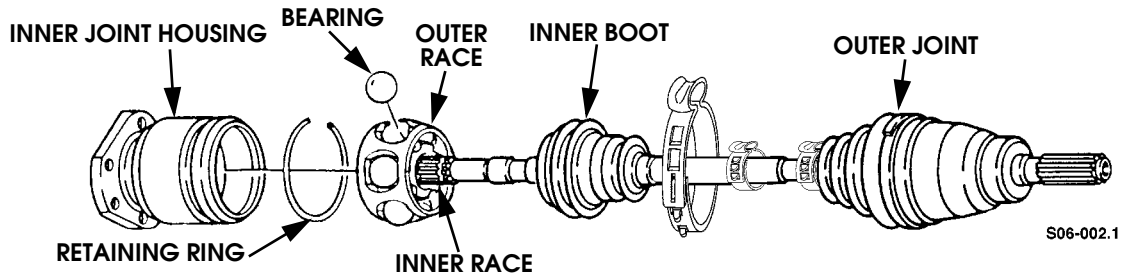

Figure 9-44: Halfshaft Boot Replacement
5. Loosen two clamps securing inner boot to inner joint housing and shaft (Figure 9-44).
10. Position six ball bearings into bearing assembly and retain with a slight amount of grease (Figure 9-44).